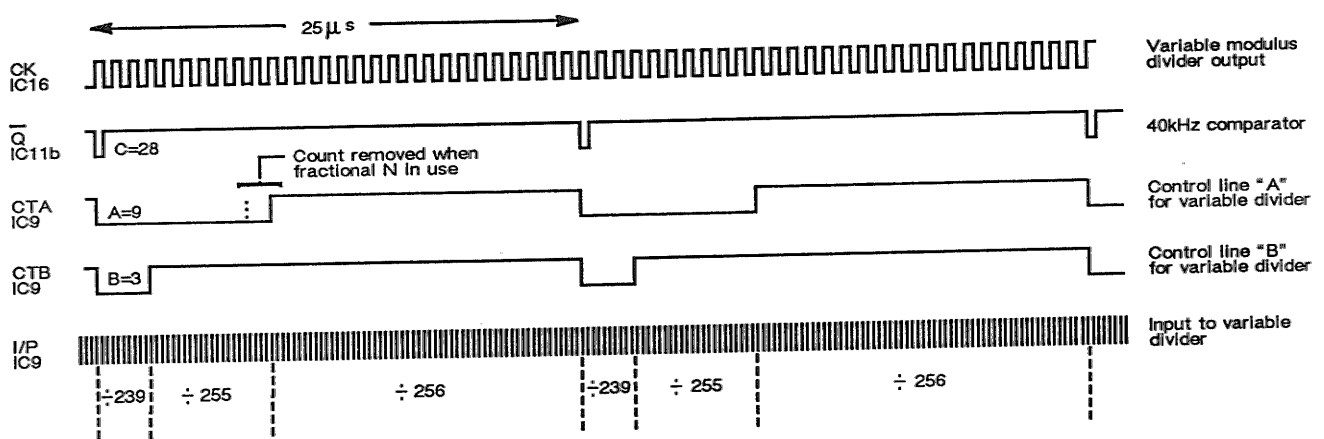

Fig. 5-19 Synthesizer drive and control waveforms
97. Waveforms similar to those shown in Fig. 5-19 should be seen in the proximity of IC7. The voltage present on TR3, TR4 collectors will depend on the difference between the internal and external frequency standards.